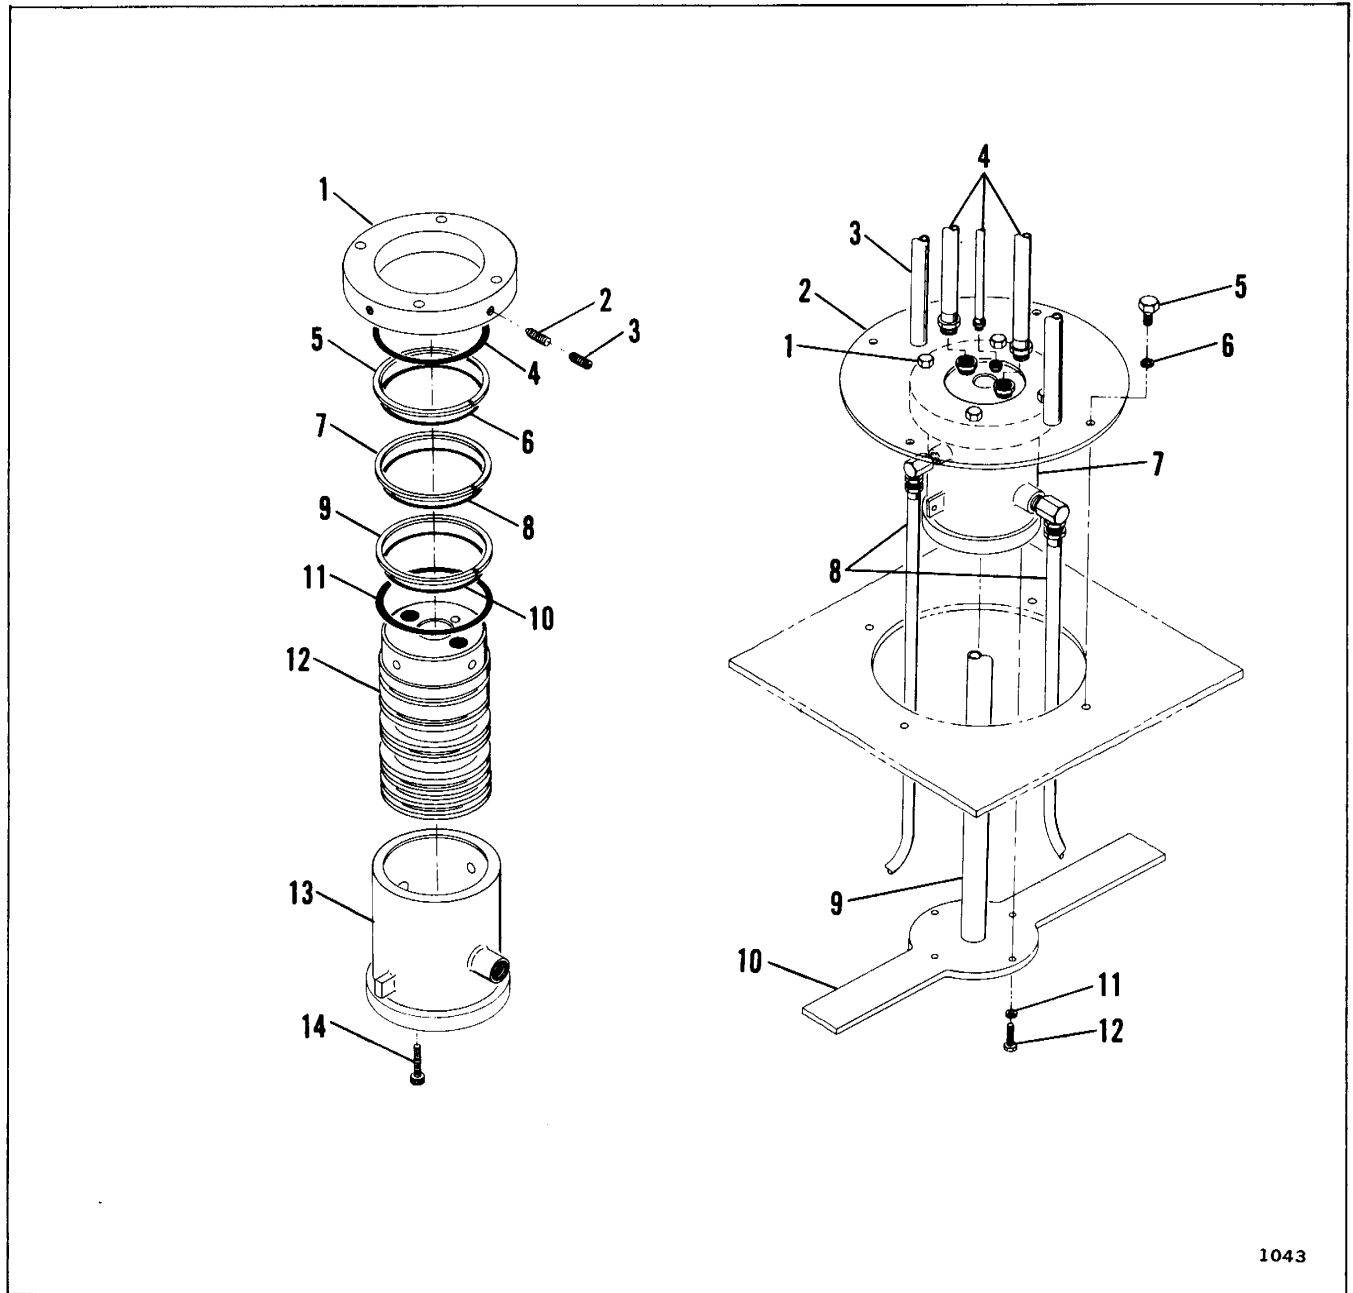

Figure 3-18. Hydraulic Swivel Coupling Assembly
Hydraulic Swivel Coupling – Disassembly. (Refer to Figure 3-18.)
Hydraulic Swivel Coupling – Reassembly. (Refer to Figure 3-18.)
2. Install new seals and rings on spool. (Refer to Arrangement of Discarded Seals and Rings, Figure 3-18.)
Hydraulic Swivel Coupling – Installation. (Refer to Figure 3-18.)